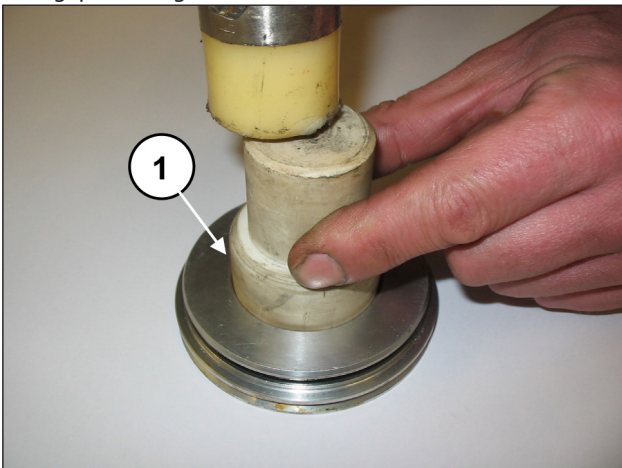
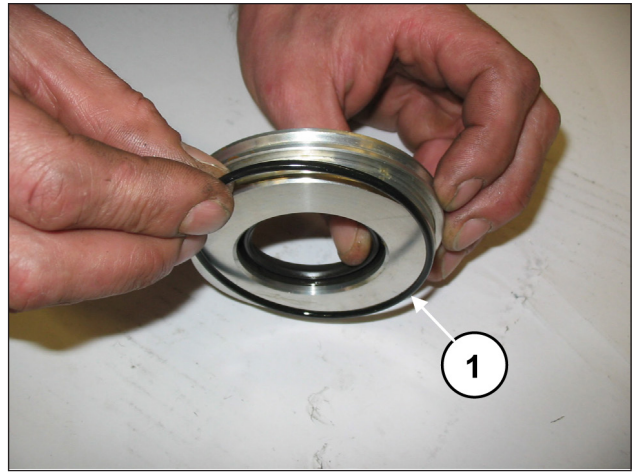

Fig. 6
Fig. 7
Take out the radial seal ring (pos. ①, Fig. 6) and the outside O-ring (pos. ①, Fig. 7).